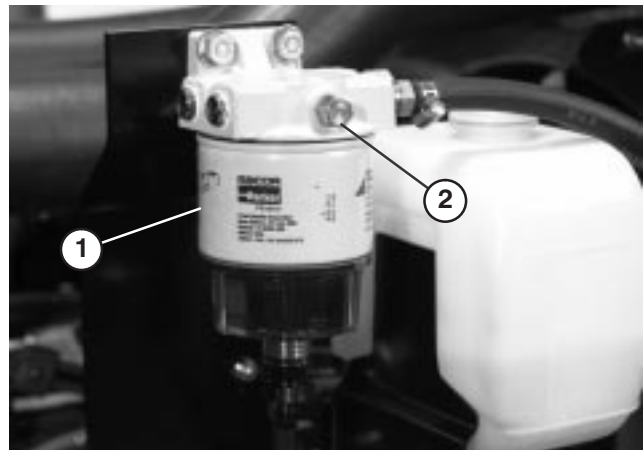

Figure 13
3. Open vent plug on the fuel filter/water separator (Fig. 13).